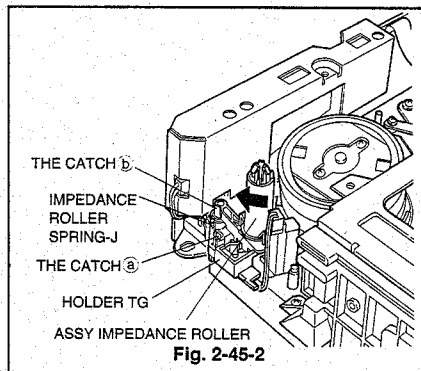

Fig. 2-45-2
- ① Unfasten the catch to remove the FLY WHEEL J.
- ② Remove the IMPEDANCE ROLLER SPRING-J from the catch ㉓ shown in Fig. 2-45-2.
- ③ Shift the ASSY IMPEDANCE ROLLER in the direction shown by the arrow. Unfasten the catch ㉔ and raise the ASSY IMPEDANCE ROLLER to remove it from the HOLDER TG.